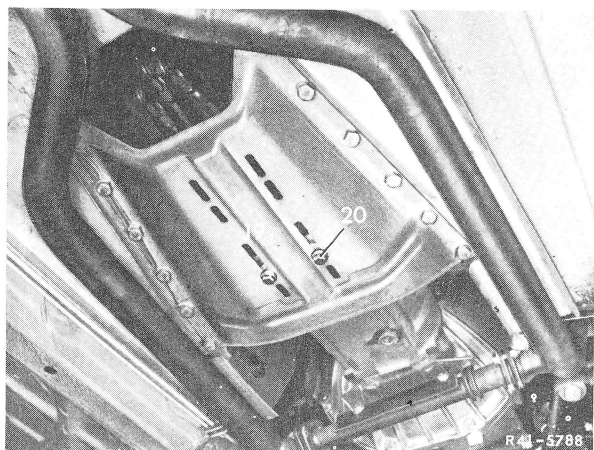

Fig. 2
- 5 Unscrew hex. bolts on tunnel closing plate as well as those for rear engine mount and remove tunnel closing plate (Fig. 2 and 3).
14 Attach tunnel closing plate to frame floor (Fig. 2 and 3). Tightening torques refer to page 1.